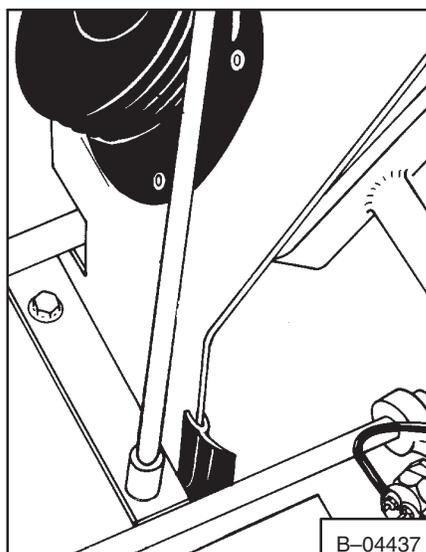

Fig. 3-5 Steering Lever Shields
5. Remove the bolts from the steering lever shields (Fig. 3-5 & 3-6).
5. Install the bolts in the steering lever shields (Fig. 3-5 & 3-6) and tighten.